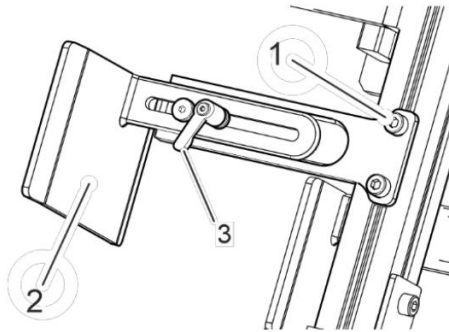

Fig. 25: Camber plates
1. ➤ Loosen the screws on the frame (Fig. 25/1).
2. ➤ Adjust the crash plates (Fig. 25/2) to the height of the flange of the bolted connection.
3. ➤ Tighten the screws on the frame (Fig. 25/1) to 25 Nm.
4. ➤ Release the clamping lever (Fig. 25/3).
5. ➤ Position the crash plate (Fig. 25/2) as close as possible to the screw.
6. ➤ Close the clamping lever (Fig. 25/3).